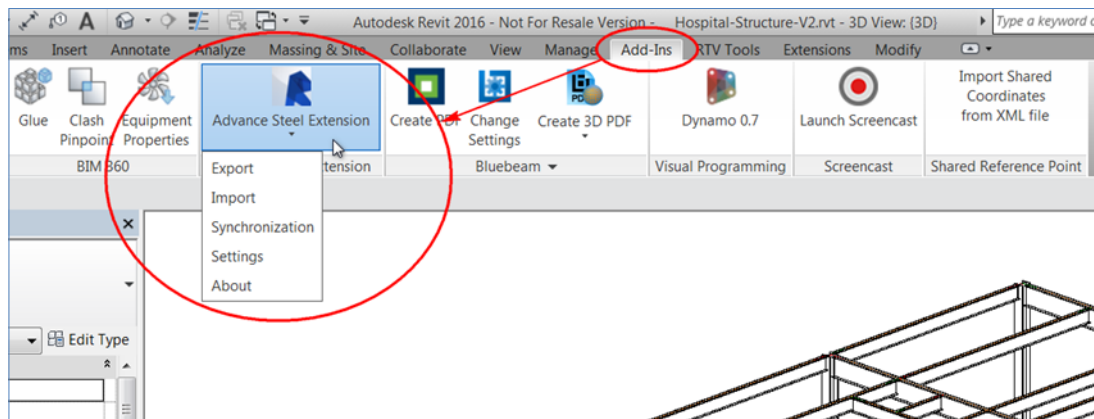

FIGURE 5: THE **ADVANCE STEEL EXTENSION** ADD-IN
4. After the add-in is installed, it will be listed in the **Add-Ins** tab, as shown in Figure 5